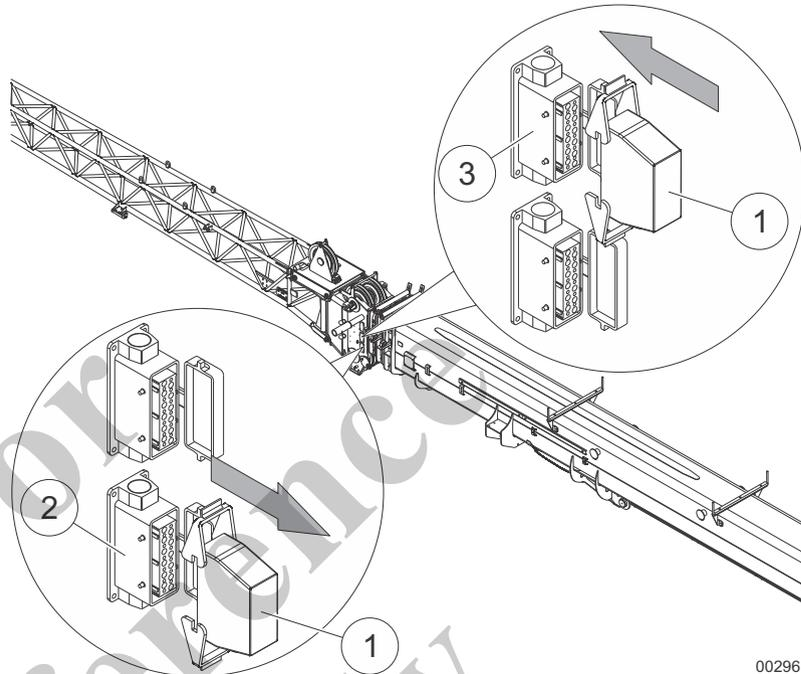

Fig. 131 Inserting the bypass plug on the telescopic boom
- 25 Remove the bypass plug (1) in Fig. 131 from the lower socket (2) in Fig. 131 and insert it into the upper socket (3) in Fig. 131.